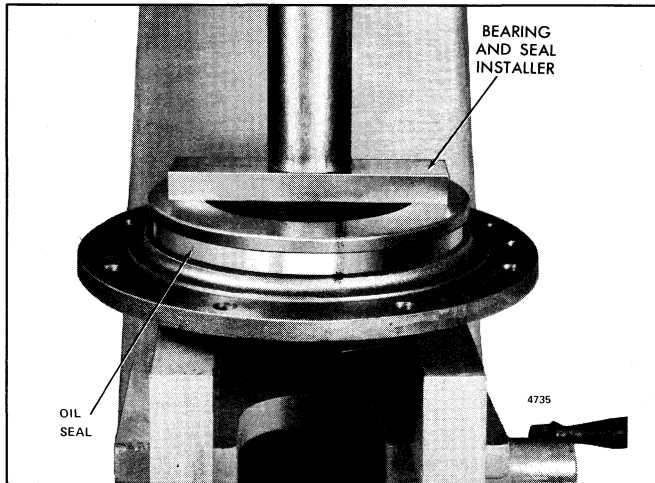

Fig. 5 - Installing Seal in Outboard Bearing Support
1. Place the bearing support on the bed of an arbor press. Coat the oil seal bore with a non-hardening sealant, unless the seal case is already pre-coated. Press the new crankshaft oil seal into the outboard bearing support with the lip of the seal facing in towards the bearing with seal installer J 22518 (Fig. 5).
1. Place the bearing support on the bed of an arbor press. Coat the oil seal bore with a non-hardening sealant, unless the seal case is already pre-coated. Press the new crankshaft oil seal into the bearing support until it contacts the bottom of the counter bore in the bearing support, using tool J 22518 (Fig. 5).